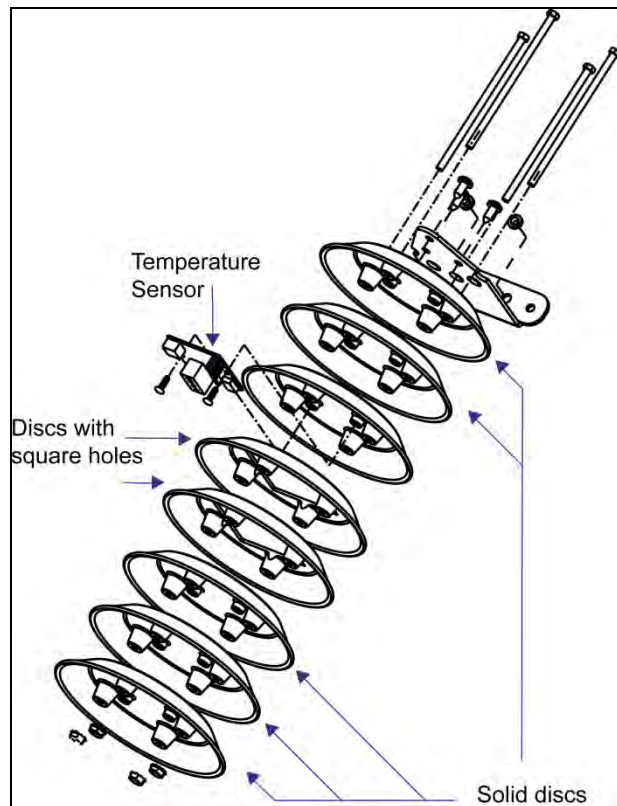
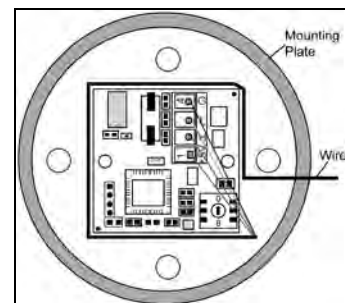

Figure 31: Temperature Sensor
Figure 32: Wire and Sensor Board
The temperature sensor, shown in **Figure 31** and **Figure 32** is a small sensor board located inside the plastic housing. This is mounted outside, typically either near the display or near the building.
5. Route cable around the sensor board, as shown in **Figure 32**, and then reassemble the sensor enclosure.